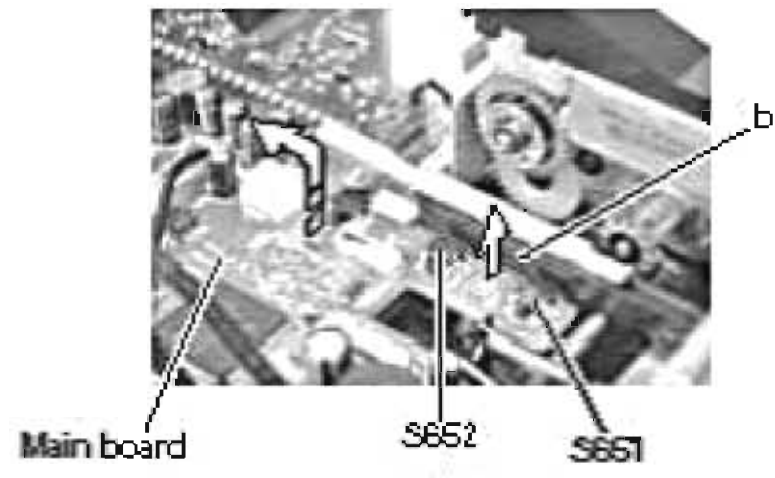

Fig.21
**ATTENTION:** When reassembling, correctly engage the switch S651 and S652 on the main board and the right gear with the part b of the operation assembly (Refer to Fig.21).